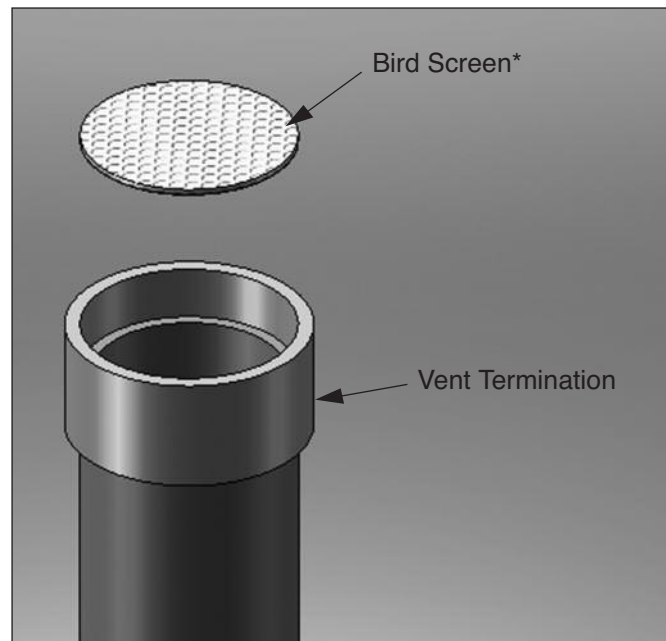

Fig. 4: Vertical Vent Bird Screen Installation
1. The vent and combustion air terminations must include a factory supplied "bird screen" installed as shown in Figs. 4, 5 & 6 on page 12.